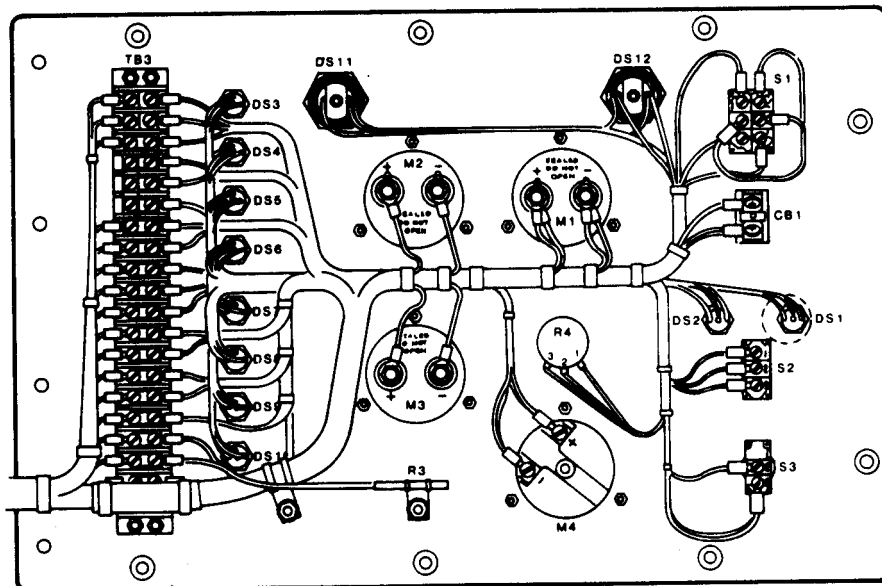

Figure 4-37. Control Panel and Control Panel Wiring Harness
(3) Monopole Speed Sensor. The monopole speed sensor is mounted at one end of an aluminum housing and is electrically connected to a two-pin connector at the other end of the housing. The entire assembly slides into the engine block and is fastened to the block by a screw-down mounting collar that fits around a mounting ring on the sensor body.
(4) Control Panel and Wiring Harness. Figure 4-37 shows the control panel and a view of the control panel with the wiring harness attached. Components mounted on the control panel include incandescent lamps, meters, a voltage adjust knob, panel lights, toggle switches, and a circuit breaker. The purpose and function of each control are listed in table 2-1.
C. Electrical Function. This paragraph covers operation of the equipment from engine startup through the time when power from the generator is applied to the load, and then to shutdown. Refer to figures 4-37 and 4-38.
(1) Initial Power Application. Power from the battery is applied to the control panel through terminal board (TB1). When the MASTER SWITCH is placed in the RUN position, two signals are sent to the EECM. One signal provides power to run the circuits in the EECM. The other signal indicates to